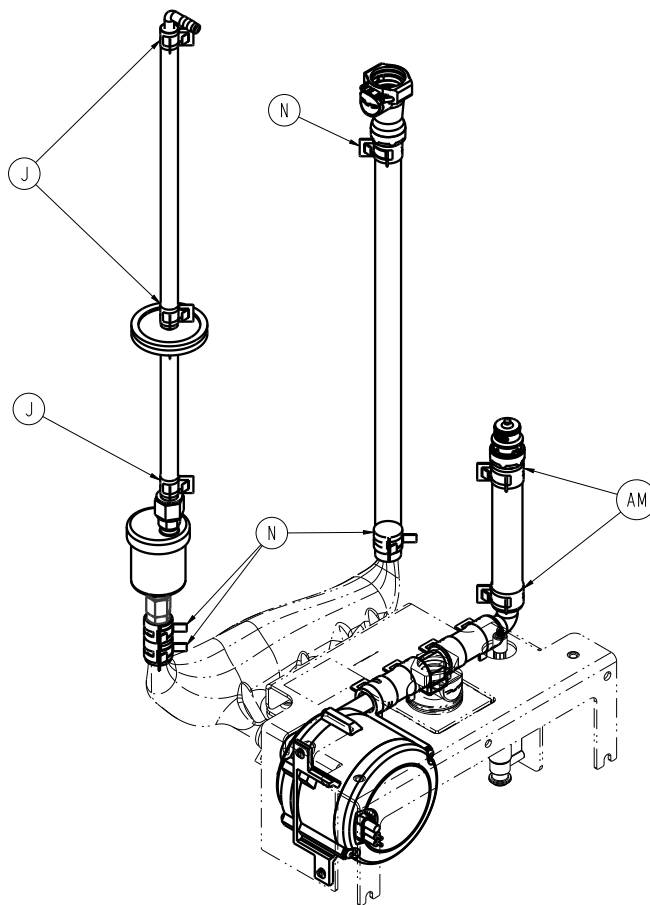

Figure 19: Secure tubing
5. Using needle nose pliers, remove the 2 hose clamps (N) that secure the tubing to the reservoir (Figure 19 on page 30).